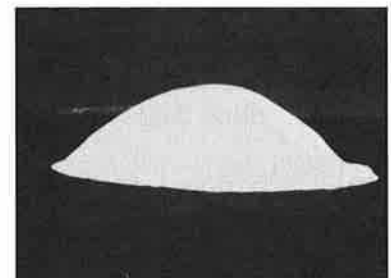

Fig. 5: “Floodable” materials are very fine and dry.
2. **Floodable** - The particles are very fine and dry. They easily aerate so they are said to be “Floodable”. The name calls attention to their being able to flow uncontrolled unless the proper precautionary measures are taken. A particle size smaller than 100 mesh and less than 2% moisture content more specifically describes this kind of bulk solid. The Screen body is enclosed and is “Dust-Tight” in these applications. Hydrated lime, fly ash, kaolin clay, pesticides, virtually all the different “dusts” from collectors, acetylene black, stucco, bentonite, talcum powder, diatomaceous earth, cement, ink dyes, carbon black, powdered milk, dextrose, powdered sugar, or anything similar, exemplify bulk solids that are “Floodable”. (See Figure 5.)